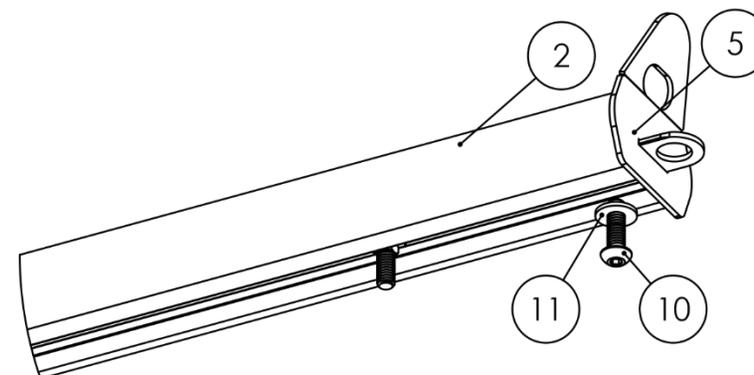

Figure 3
2. **Install the End Caps to the Crossbars.** Slide (4) End Caps (Item No. 5) into each end of a Crossbar (Item No. 2). Once inserted, match the Crossbar's pre-drilled hole with the End Cap's threaded hole. As shown in Figure 3, secure each End Cap by threading a 1.25" Button Head Cap Screw (Item No. 10) and a Metal Washer (Item No. 11) into the concentric holes.